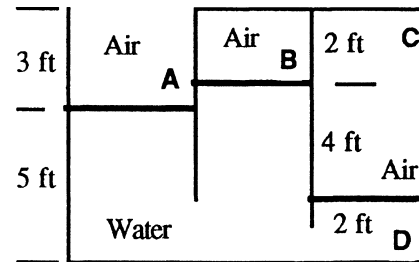

Fig. P2.17
**2.17** All fluids in Fig. P2.17 are at 20°C. If  $p = 1900 \text{ psf}$  at point A, determine the pressures at B, C, and D in psf.